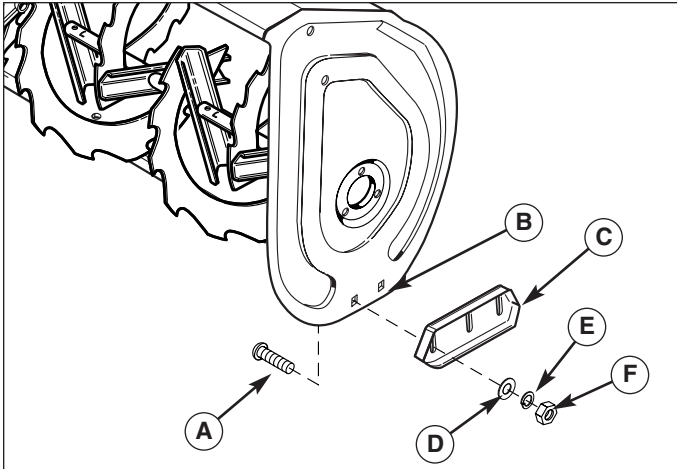

Figure 18. Skid Shoe Installation
1. Install the skid shoes using 3/8-16 x 3/4" carriage bolts, washers, lockwashers, and nuts as shown in Figure 18.